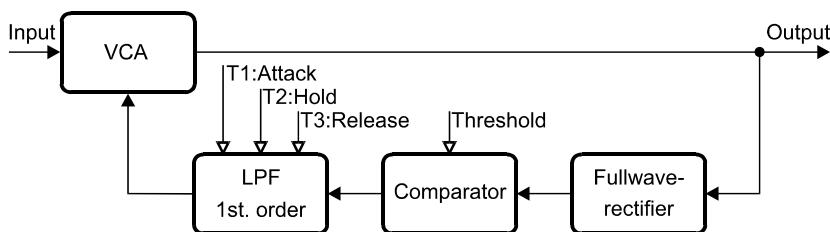

Fig. 15.1 Analog peak-limiter
**'Analog' peak-limiter.** The block diagram above (Fig. 15.1) shows a peak-limiter circuit, found in most analog limiter devices. A VCA (Voltage-Controlled-Amplifier) controls the adjustment of the level-reduction. The necessary control voltage for the VCA is determined by comparing the default threshold with the rectified output voltage. If the output signal exceeds the threshold, the current increase at the comparator-output is passed to the VCA-control-input by means of an RC-circuit, whose time-constant defines the attack-time (T1). Should the threshold-exceeding voltage no longer be present, the amplification is released back to the output-value depending on the release-time-constant (T3). Before this, the level reduction determined by the attack is held for the period of the hold-time (T2). The hold-function is missing in most of the commonly used analog limiter-systems.